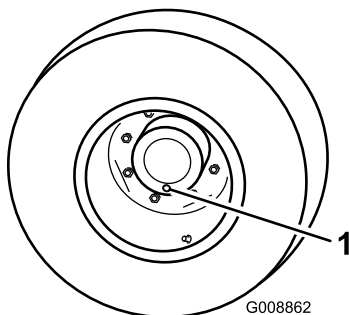

Figure 70
1. With the machine on a level surface, position a wheel so a check plug is at the lowest (6 o'clock) position (Figure 70).